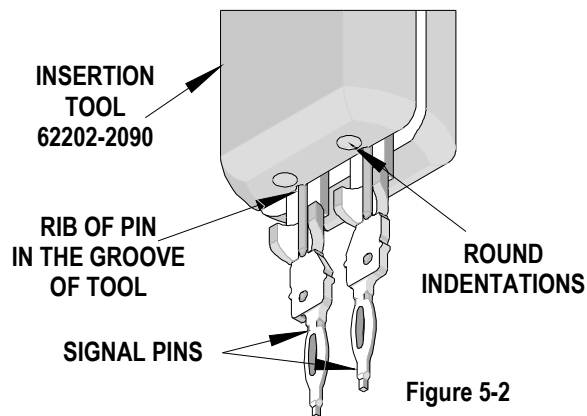
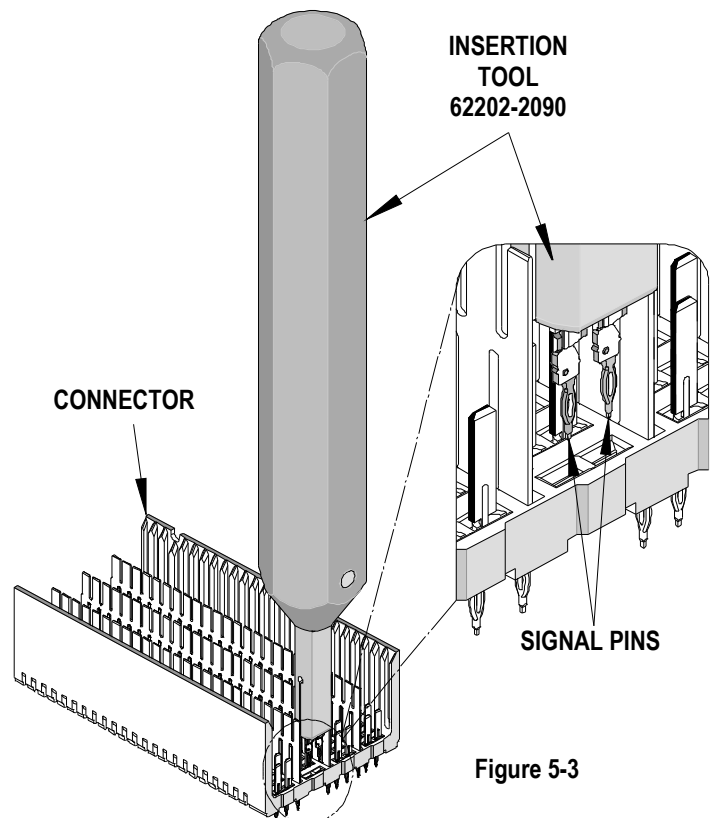

Figure 5-2
Figure 5-3
**Note:** The pins are left and right handed and must be loaded into the connector in their proper orientation. They should be positioned in the insertion tool so that the ribs on the center of the pins are located in the grooves in the tip of the tool, facing the round indentations. Due to the small size of the pins, a tweezers may help in this operation. There should be a slight friction fit when the pins are inserted all the way in to the tip. See Figure 5-2. Carefully load and push the pins down into the connector base until the tool stops against the board. See Figure 5-3. Then remove the inserter from the connector.